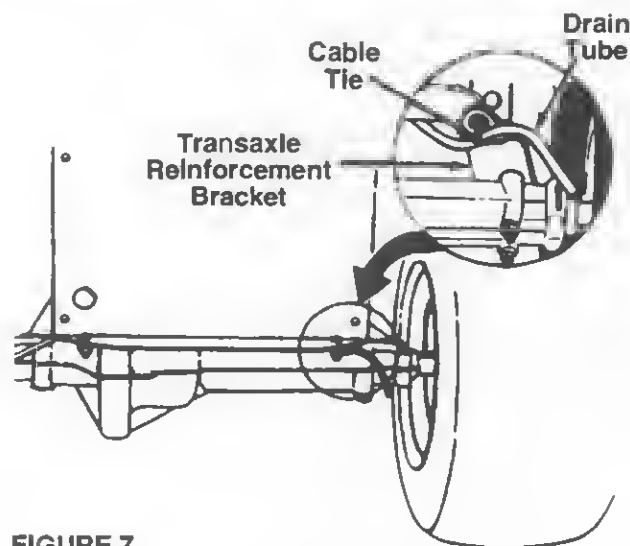

FIGURE 7.
7. Insert the drain tube through the cable tie which is attached to the transaxle reinforcement bracket on the **right** side of the unit. See figure 7. Be certain drain tube is routed away from the wheel rim. Pull on end of cable tie to tighten (do not collapse drain tube). Trim excess end of cable tie. Trim excess end of drain tube if necessary (about 4" should extend past the cable tie).